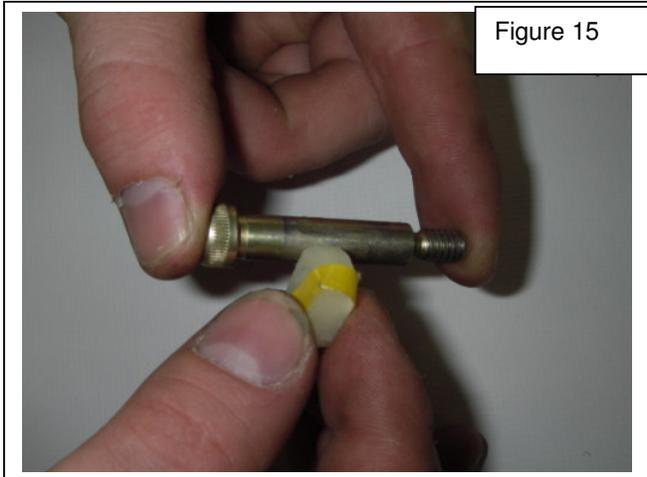

Figure 15
3. Fit countersunk head screw (item 7 of drawing 6481, using 243 loctite (tighten down firm making sure gap between fitting and down tube is closed up).
4. Apply a coating of dry lube on shoulder bolt, figure 15.